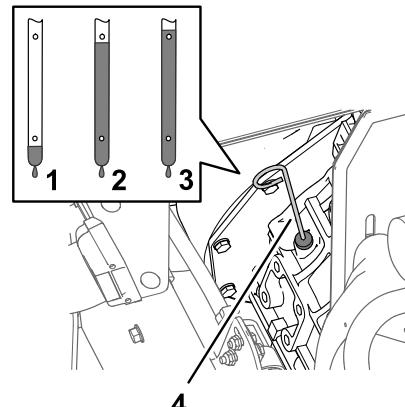

Figure 73
2. Remove the dipstick, located under the passenger seat, and wipe it with a clean rag (Figure 73).